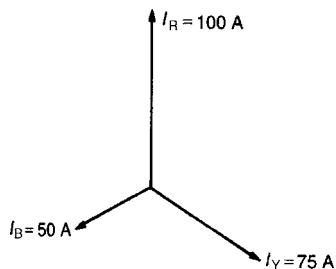

Figure 20.8
- The three line currents are shown in the phasor diagram of Fig. 20.8. Since each load is resistive the currents are in phase with the phase voltages and are hence mutually displaced by  $120^\circ$ . The current in the neutral conductor is given by  $I_N = I_R + I_Y + I_B$  phasorially.